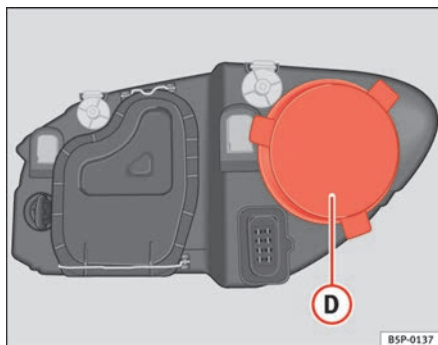

Fig. 183 Side lights
- Remove the cover ⇒ fig. 183 ① by pulling on this.